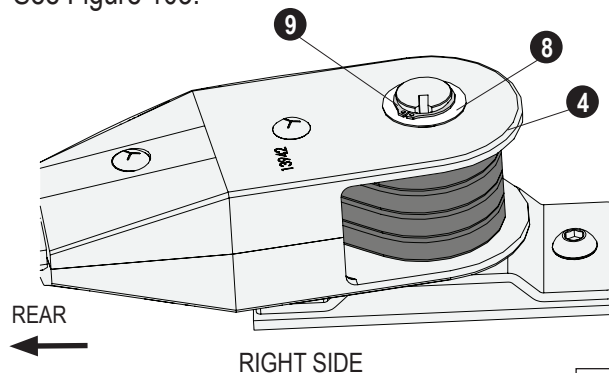

FIG. 103
- Slide the second **arm casting plate (4)** onto the pivot pin.
- Install another **bushing (8)**, followed by a **snap ring (9)**. See Figure 103.